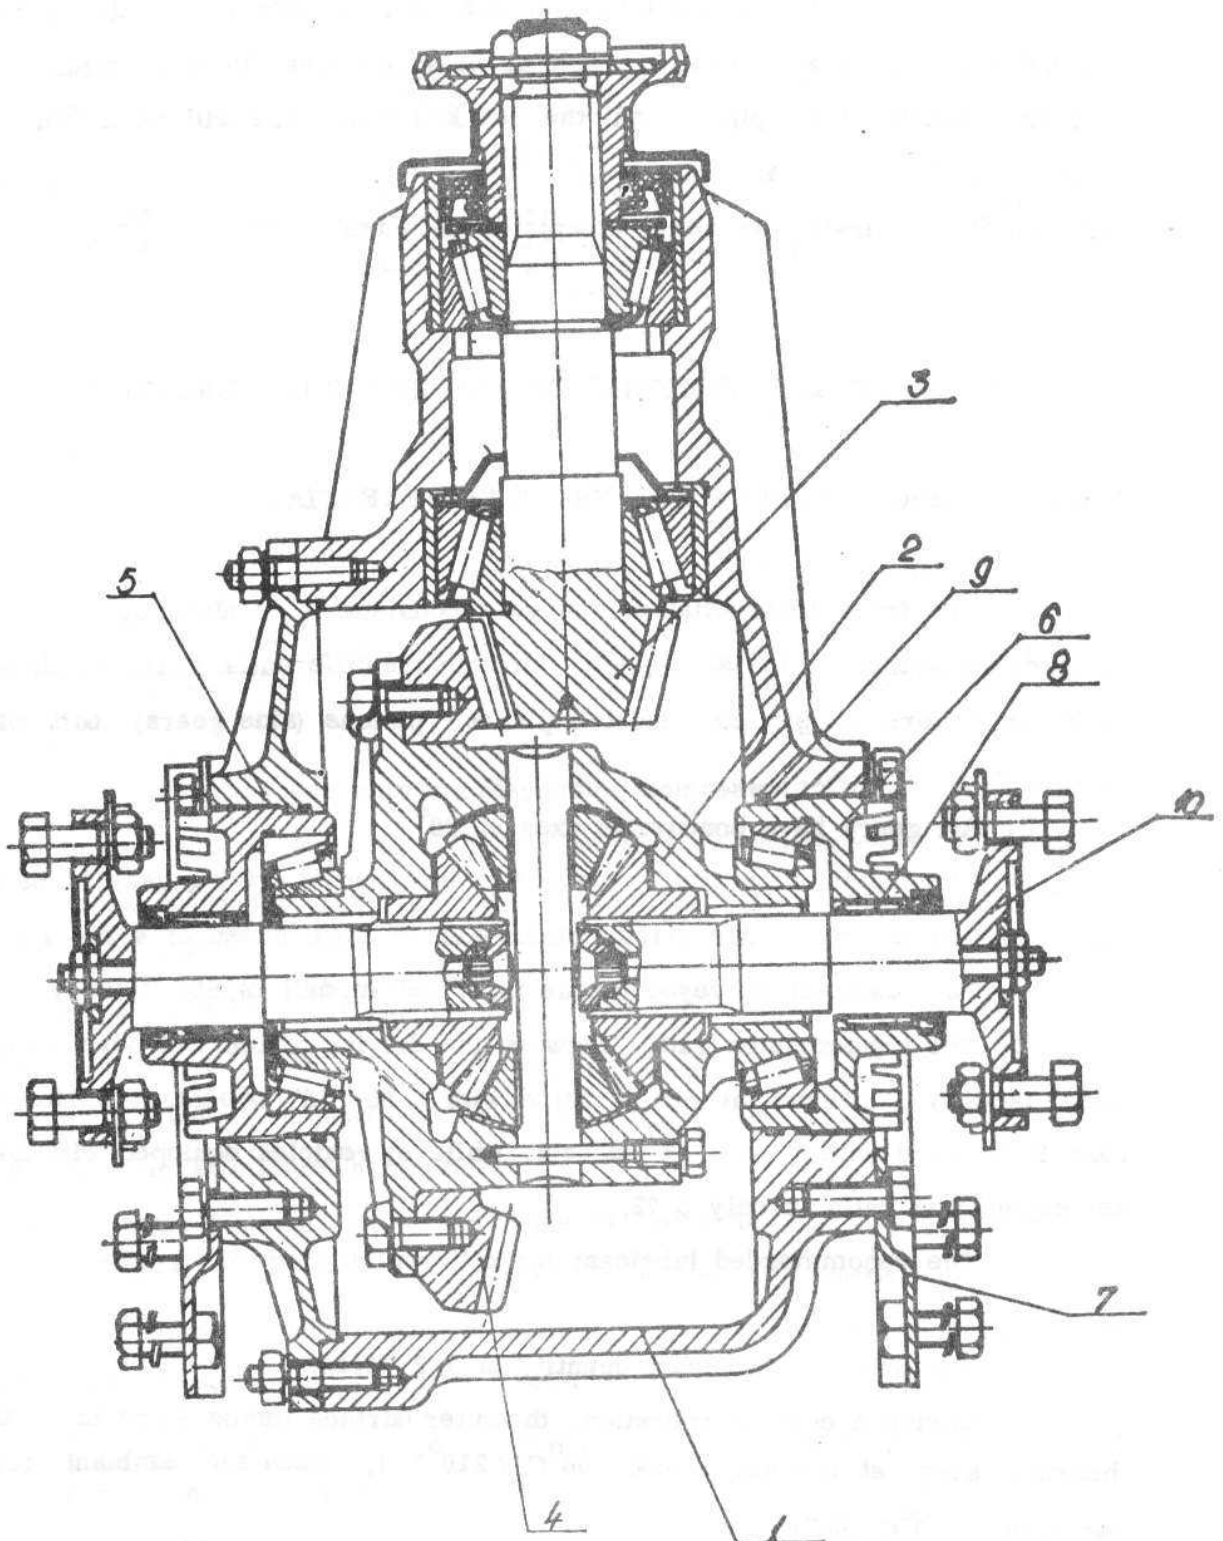

Fig. 4.113. FRONT DIFFERENTIAL ASSY
- Measure the differential housing, namely the dimension "B", by means of V 104 measuring device and mark the found deviation (the measuring instrument should be set to "0", using the standard gauge on its maximum position - see Fig. 4.113).